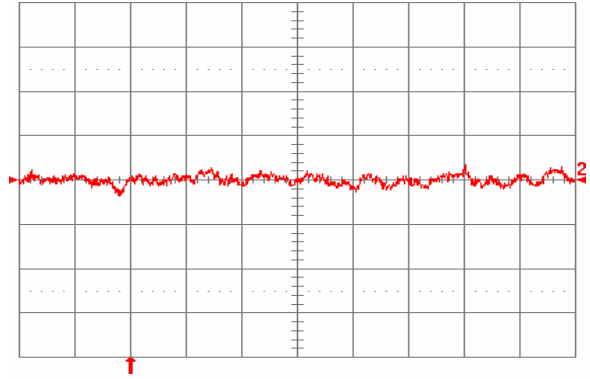

**Fig. 1.5V.14:** Test Setup for measuring input reflected ripple currents,  $i_c$  and  $i_s$ .
**Fig. 1.5V.1:** Available load current vs. ambient air temperature and airflow rates for SQ48T15015 converter with D height pins mounted vertically with  $V_{in} = 48\text{ V}$ , air flowing from pin 3 to pin 1, and maximum FET temperature  $\leq 120^\circ\text{C}$
**Fig. 1.5V.2:** Available load current vs. ambient air temperature and airflow rates for SQ48T15015 converter with D height pins mounted horizontally with  $V_{in} = 48\text{ V}$ , air flowing from pin 3 to pin 1, and maximum FET temperature  $\leq 120^\circ\text{C}$ .
**Fig. 1.5V.3:** Available load current vs. ambient air temperature and airflow rates for SQ48S15015 converter mounted vertically with  $V_{in} = 48$  V, air flowing from pin 3 to pin 1, and maximum FET temperature  $\leq 120$  °C.
**Fig. 1.5V.4:** Available load current vs. ambient air temperature and airflow rates for SQ48S15015 converter mounted horizontally with  $V_{in} = 48$  V, air flowing from pin 3 to pin 1, and maximum FET temperature  $\leq 120$  °C.
**Fig. 1.5V.5:** Efficiency vs. load current and input voltage for SQ48T/S15015 converter mounted vertically with  $V_{in} = 48$  V and air flowing from pin 3 to pin 1 at a rate of 300 LFM (1.5 m/s) and  $T_a = 25$  °C.
**Fig. 1.5V.6:** Efficiency vs. load current and ambient temperature for SQ48T/S15015 converter mounted vertically with  $V_{in} = 48$  V and air flowing from pin 3 to pin 1 at a rate of 200 LFM (1.0 m/s).
**Fig. 1.5V.7:** Power dissipation vs. load current and input voltage for SQ48T/S15015 converter mounted vertically with air flowing from pin 3 to pin 1 at a rate of 300 LFM (1.5 m/s) and  $T_a = 25^\circ\text{C}$ .
**Fig. 1.5V.8:** Power dissipation vs. load current and ambient temperature for SQ48T/S15015 converter mounted vertically with  $V_{in} = 48\text{ V}$  and air flowing from pin 3 to pin 1 at a rate of 200 LFM (1.0 m/s).
**Fig. 1.5V.9:** Turn-on transient at full rated load current (resistive) with no output capacitor at  $V_{in} = 48\text{ V}$ , triggered via ON/OFF pin. Top trace: ON/OFF signal (5 V/div.). Bottom trace: output voltage (0.5 V/div.). Time scale: 2 ms/div.
**Fig. 1.5V.10:** Turn-on transient at full rated load current (resistive) plus 10,000  $\mu\text{F}$  at  $V_{in} = 48\text{ V}$ , triggered via ON/OFF pin. Top trace: ON/OFF signal (5 V/div.). Bottom trace: output voltage (0.5 V/div.). Time scale: 2 ms/div.
**Fig. 1.5V.11:** Output voltage response to load current step-change (3.75 A – 7.5 A – 3.75 A) at  $V_{in} = 48$  V. Top trace: output voltage (100 mV/div.). Bottom trace: load current (5 A/div.). Current slew rate: 0.1 A/μs.  $C_o = 1$  μF ceramic. Time scale: 0.2 ms/div.
**Fig. 1.5V.12:** Output voltage response to load current step-change (3.75 A – 7.5 A – 3.75 A) at  $V_{in} = 48$  V. Top trace: output voltage (100 mV/div.). Bottom trace: load current (5 A/div.). Current slew rate: 5 A/μs.  $C_o = 450$  μF tantalum + 1 μF ceramic. Time scale: 0.2 ms/div.
**Fig. 1.5V.13:** Output voltage ripple (20 mV/div.) at full rated load current into a resistive load with  $C_o = 10$  μF tantalum + 1 μF ceramic and  $V_{in} = 48$  V. Time scale: 1 μs/div.
**Fig. 1.5V.15:** Input reflected ripple current,  $i_c$  (100 mA/div.), measured at input terminals at full rated load current and  $V_{in} = 48$  V. Refer to Fig. 1.5V.14 for test setup. Time scale: 1  $\mu$ s/div.
**Fig. 1.5V.16:** Input reflected ripple current,  $i_s$  (10 mA/div.), measured through 10  $\mu$ H at the source at full rated load current and  $V_{in} = 48$  V. Refer to Fig. 1.5V.14 for test setup. Time scale: 1  $\mu$ s/div.
**Fig. 1.5V.17:** Output voltage vs. load current showing current limit point and converter shutdown point. Input voltage has almost no effect on current limit characteristic.
**Fig. 1.5V.18:** Load current (top trace, 20 A/div., 20 ms/div.) into a 10 m $\Omega$  short circuit during restart, at  $V_{in} = 48$  V. Bottom trace (20 A/div., 1 ms/div.) is an expansion of the on-time portion of the top trace.